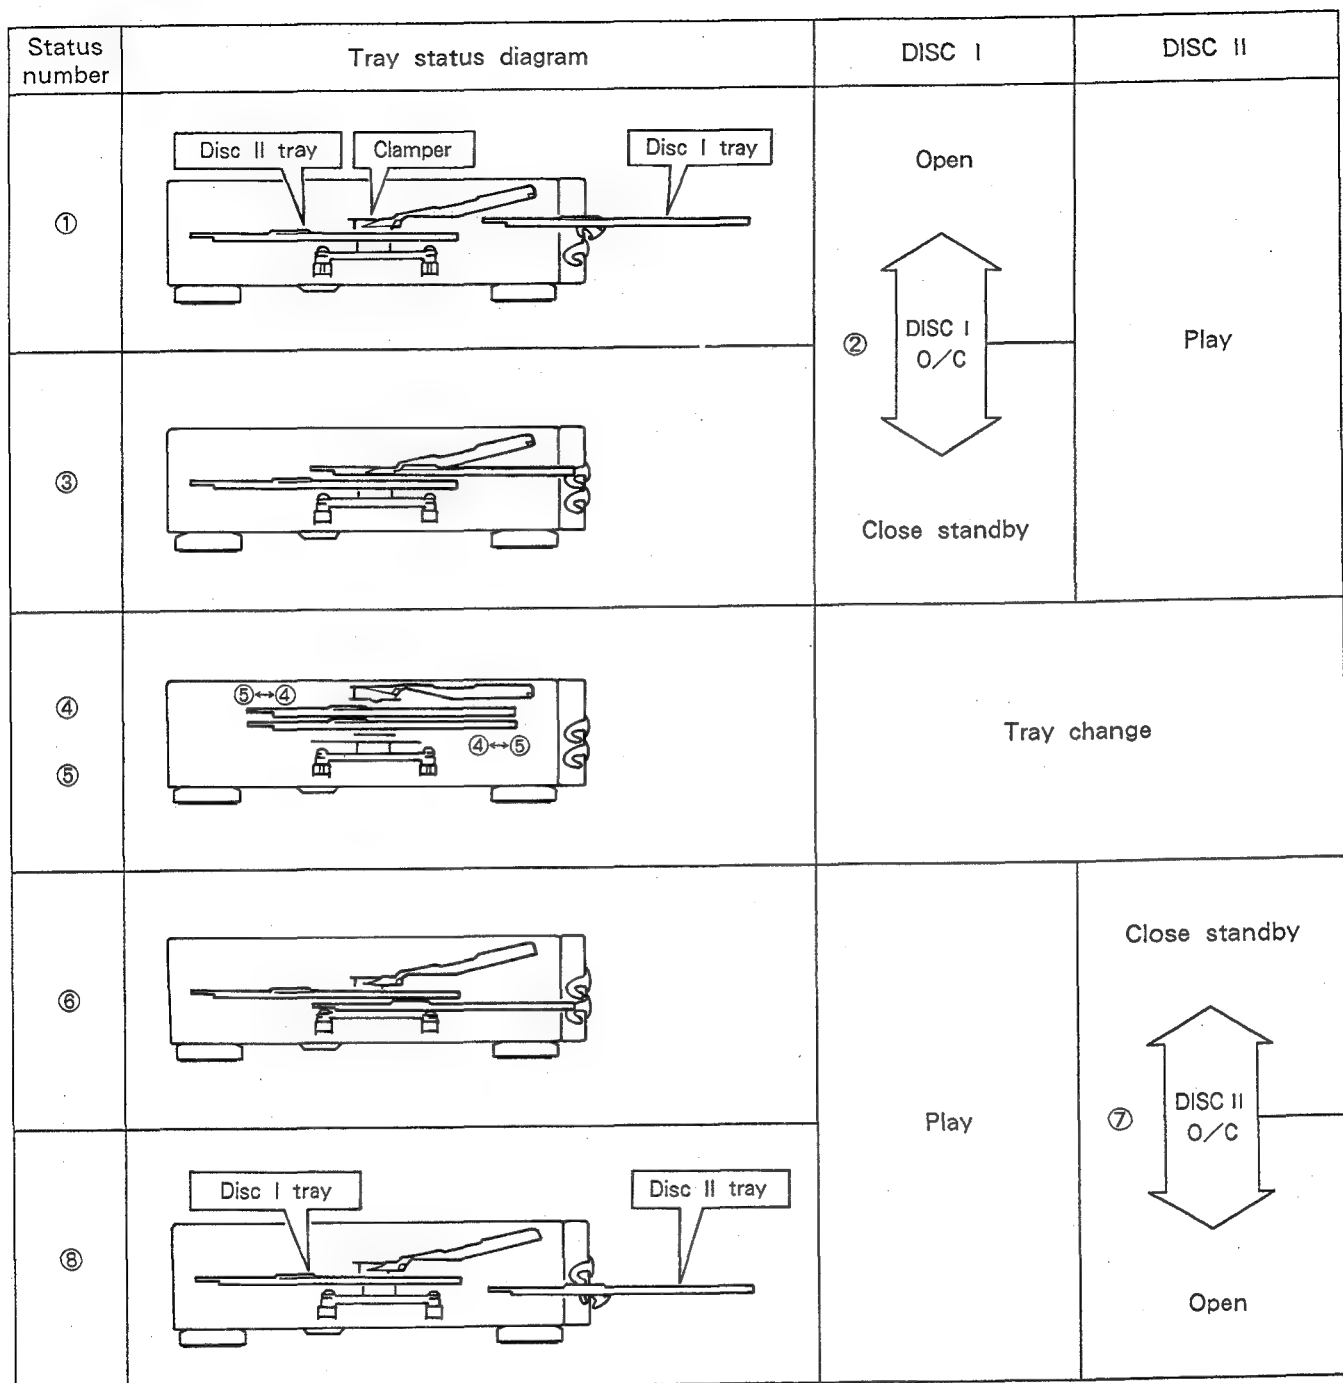

Fig. 10-13. Twin-Tray Operation Description Diagram
Table 10-1 shows the status of the various pins and the corresponding status of tray 1 and tray 2. The positions of trays 1 and 2 are shown in Fig. 10-13. The status of Pins ②④, ②⑤, and ②⑥ of the system control microcomputer (PD4184) is created according to the ON/OFF status of the SW board ass'y switches (U, S, and L) attached to the loading base ass'y. Because Pins ②④, ②⑤, and ②⑥ are pulled up to 5V by the R146, R147, and R149 resistors, the status is "H" when the switches (U, S, and L) are OFF (lever not pressed).